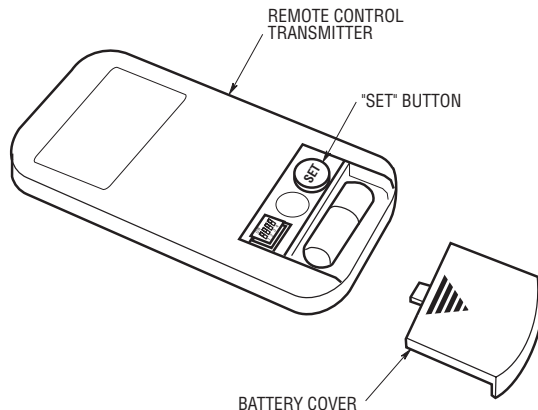

Figure 15
3. Press and hold the "SET" button on the back of the transmitter for five seconds. The fan lights will turn on or flash to indicate the programming procedure has been successfully completed (Figure 15).